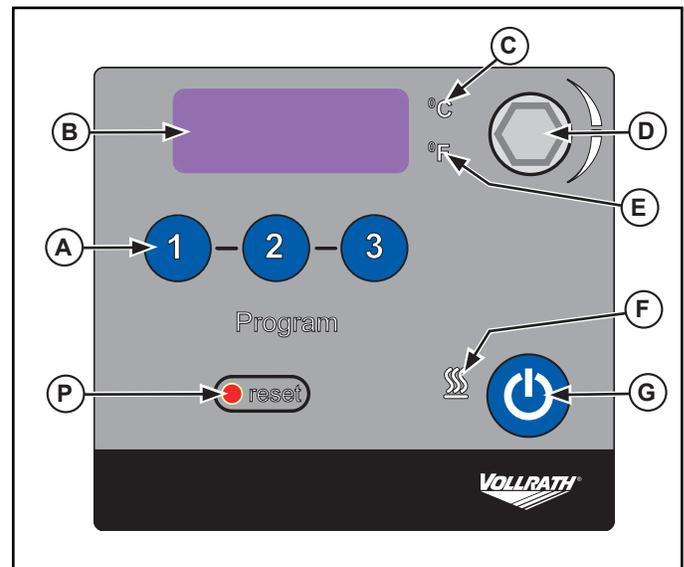

Figure 1. Front of Control Panel.
- Set the pump speed switch (I) to the desired setting.
- Press the controller button On/Off button (G). See Figure 1.
2. Press and hold the "2" preset temperature (A) while switching the power switch (J) to the "ON" position. See Figures 1 and 2.
2. Press and hold the "3" preset temperature (A) while switching the power switch (J) to the "ON" position. See Figures 1 and 2.
desired preset temperature (A) button, 1, 2, or 3. A decimal on the display (B) begins to blink and recalls the previous setting. See Figure 1.
2. Rotate the select/set knob (D) until the desired temperature is displayed. Once the desired setting is reached press the select/set knob (D) a second time. Press the desired preset temperature (A) button to save the temperature to that button.
1. Press and hold the select/set knob (D) until display (B) shows "LLo" (about 10 seconds) then let go. See Figure 1. When locked, the setpoint decimal point will not flash.
2. Press and hold the select/set knob (D) again, until the display (B) shows "LLo" (about 10 seconds) then let go, to unlock the controls. Once unlocked, the display (B) will show "CAn".
Should the water level drop below the heater the safety thermostat will activate and disconnect power from the heater and pump. The display (B) will show "FLt 3". Allow to cool and press the reset button (P). See Figure 1.
1. Press the control on/off button (G) and switch the power switch (J) to the "OFF" position. See Figures 1 and 2.